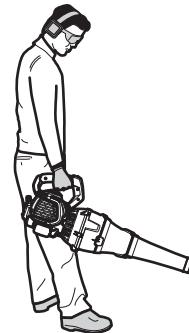

Fig. 10
- Stand in the operating position (Fig. 10). Stand up straight. Do not bend over.
- Hold the handle firmly with either hand (Fig. 10).